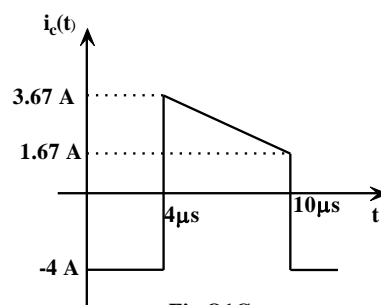

Fig.Q1C
- 1C.** The capacitor current of a buck-boost converter is shown in Fig.Q1C. Determine duty ratio, maximum inductor current, minimum inductor current, average source current and average diode current. **(04)**